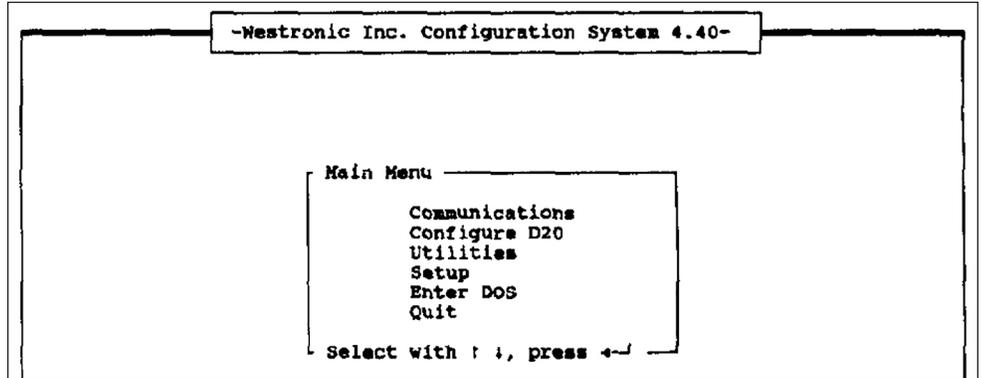

Figure 5. The *Main Menu* screen.
STEP 3. Press the <ENTER> key to save the configuration. The *Main Menu* screen will open. See Figure 5 on page 11.